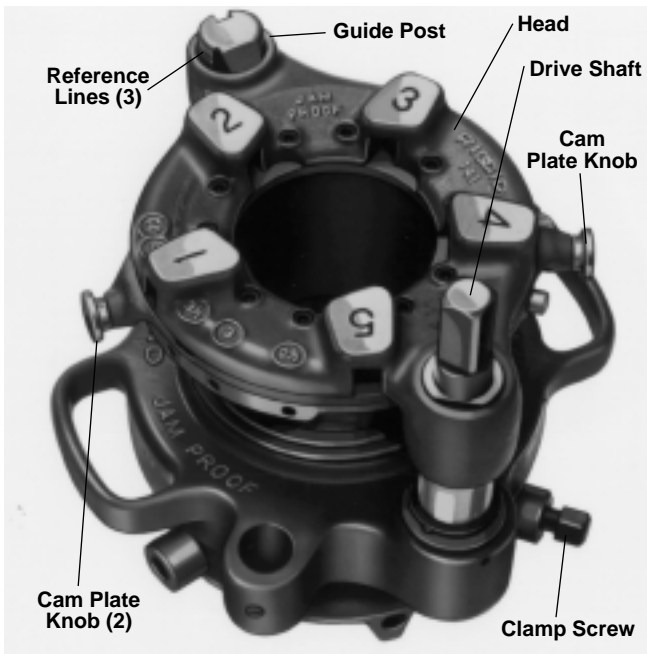

Figure 16 – No. 141 Geared Threader Showing Pinion Sleeve and Guide Post Reference Lines
Grasp workholder and turn square end of drive shaft or turn gear case by hand to respective reference lines on guide post (Figure 16).
4. Turn guide post until straight slot faces inward for straight thread. For tapered threads set tapered slot inward. *Figure 16* shows guide post set to cut tapered thread.
7. 141 and 161 – Using the socket wrench, loosen clamp screw (Figure 16), turn workholder to OPEN position and remove pipe.